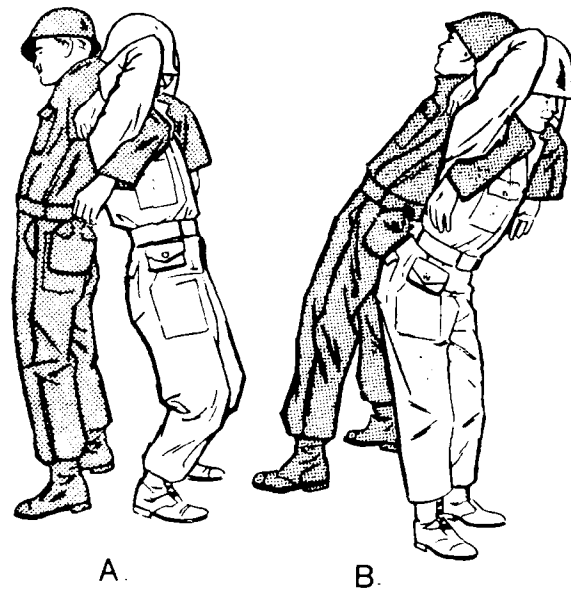

Figure 18-32.—Back lift and carry.
2. Bending backward, put your hands under his arms and grasp his upper arms near the armpits (fig. 18-32, view A).
3. Bend forward, pulling him onto your back (fig. 18-32, view B).